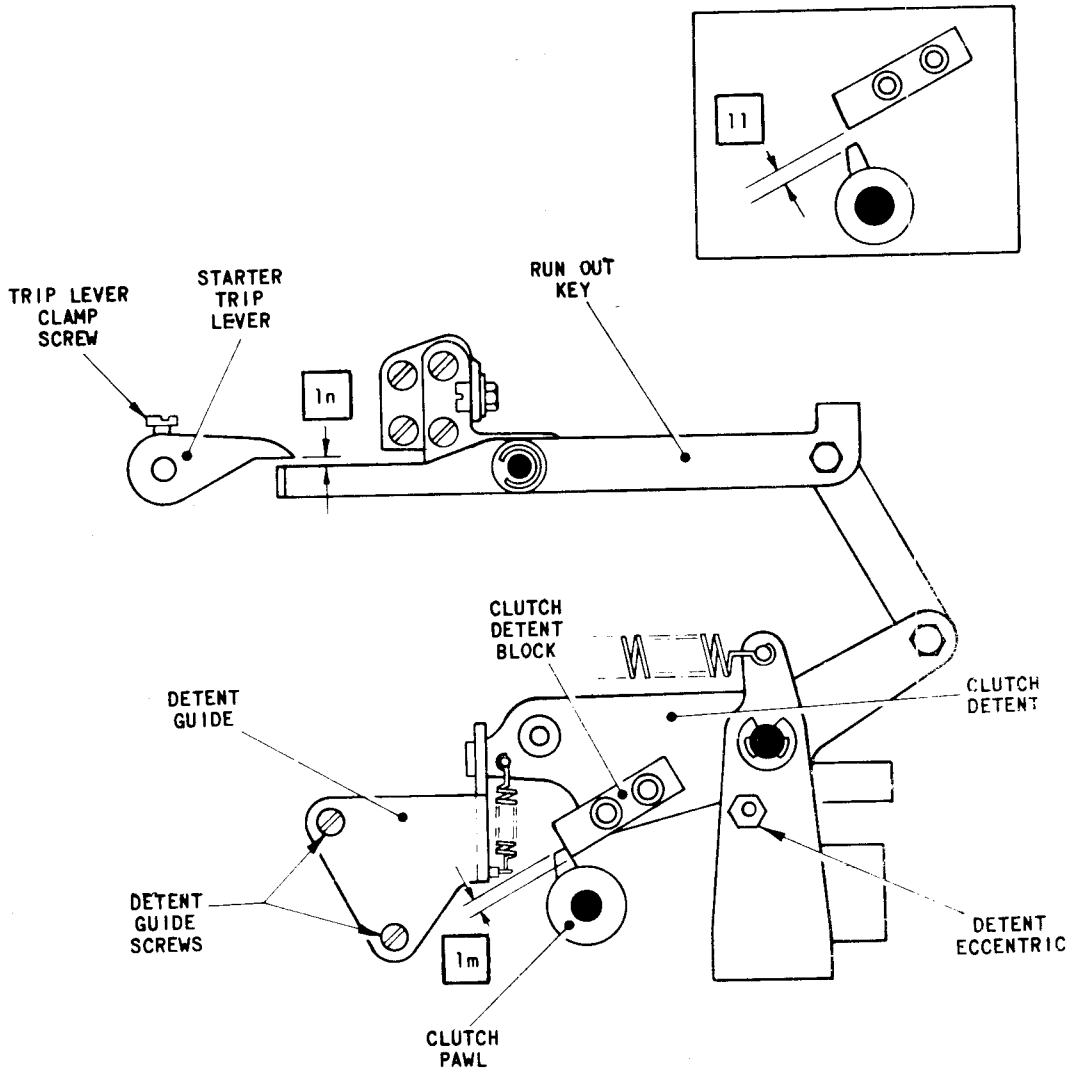

FIG.L.17 RUN OUT TRIP MECHANISM
- 17.1 With the run out shaft in the rest position, trip the run out clutch by depressing the run out key, Fig.L.17. Check that there is a clearance of  $.015 - .030$  in. (dimension 'll' – inset) between the clutch pawl and the block on the clutch detent.
- 18.1 Check that there is a clearance of more than  $.005$  in. (dimension 'ln') between the starter trip lever, Fig.L.17, and the tail of the run out key.
- 18.3 To adjust, slacken the screw clamping the starter trip lever, Fig.L.17, and move the lever round its shaft until the clearances are obtained. Tighten the clamp screw.
- 19.1 Insert two thicknesses of tape into the perforator. Switch on the motor. Press the top end of the transfer levers, Fig.L.9, to the left to set up an All Mark condition in the punch block. Hold down the run out key, Fig.L.17 until about twelve inches of tape has been produced. Check that a regular series of clean, round holes has been perforated in each tape. Repeat this check using the translator shaft instead of the run out shaft.